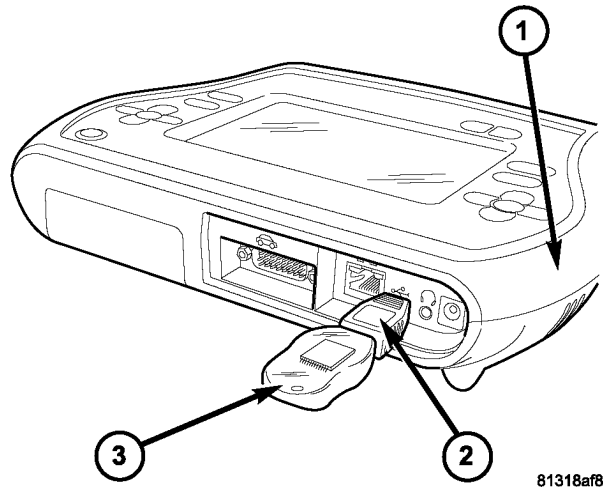

Fig. 3 USB KEY, GENDER CHANGER, AND StarSCAN TOOL
8. With the StarSCAN powered OFF, connect the USB Key and Gender Changer to the StarSCAN USB port (Fig. 3).